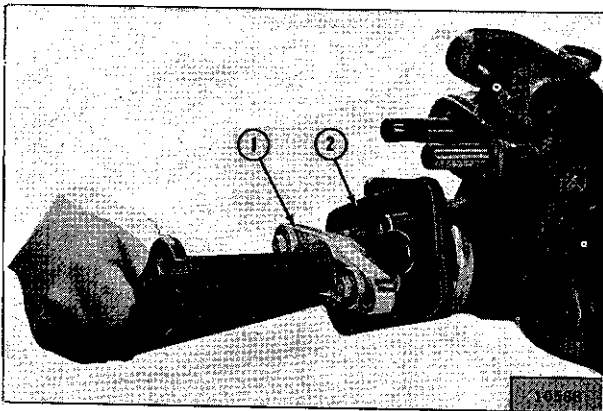

FIG. 224—UNIVERSAL JOINT FLANGE PULLER
- a. Remove the both output shaft end yoke nuts (37) and both washers, using Yoke Holding Wrench C-3281 to prevent rotation of the yoke and shaft. Remove both yokes (1) with Puller W-172 as shown in Fig. 224.
- b. Remove lower screws and lockwashers and remove the cover (57).
- c. Remove lock plate screw, lock washer and lock plate (7).
- d. Use a brass punch to drive out intermediate shaft (52) to the rear of the case.
- e. Remove the intermediate gear (34), two thrust washers (33), needle bearings (51), and spacers (50) through the bottom of the case.
- f. Remove poppet plugs (10), springs (11), and balls (12) on both sides of front bearing cap (15). Shift front-wheel drive to engaged position (shaft forward).
- g. Remove screws holding front output bearing cap. Remove the cap as an assembly including the clutch shaft, bearing, clutch gear, fork, and shift rod. Use care not to lose the interlock (13) which floats between the shift rods.
- h. Remove the screws holding the rear output cap (3). Remove the cap as an assembly with the speedometer gear.
- i. Use a rawhide hammer to drive against the front end of the output shaft (46) to remove the rear